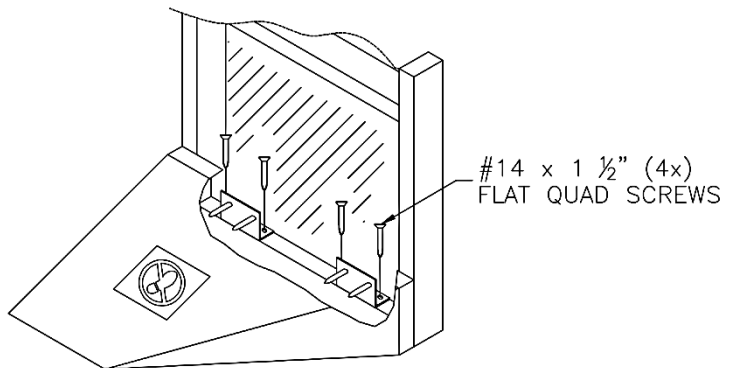

FIG. 11B
- **Place Bottom Pad** along bottom of Vertical Frame (Figure 11b).